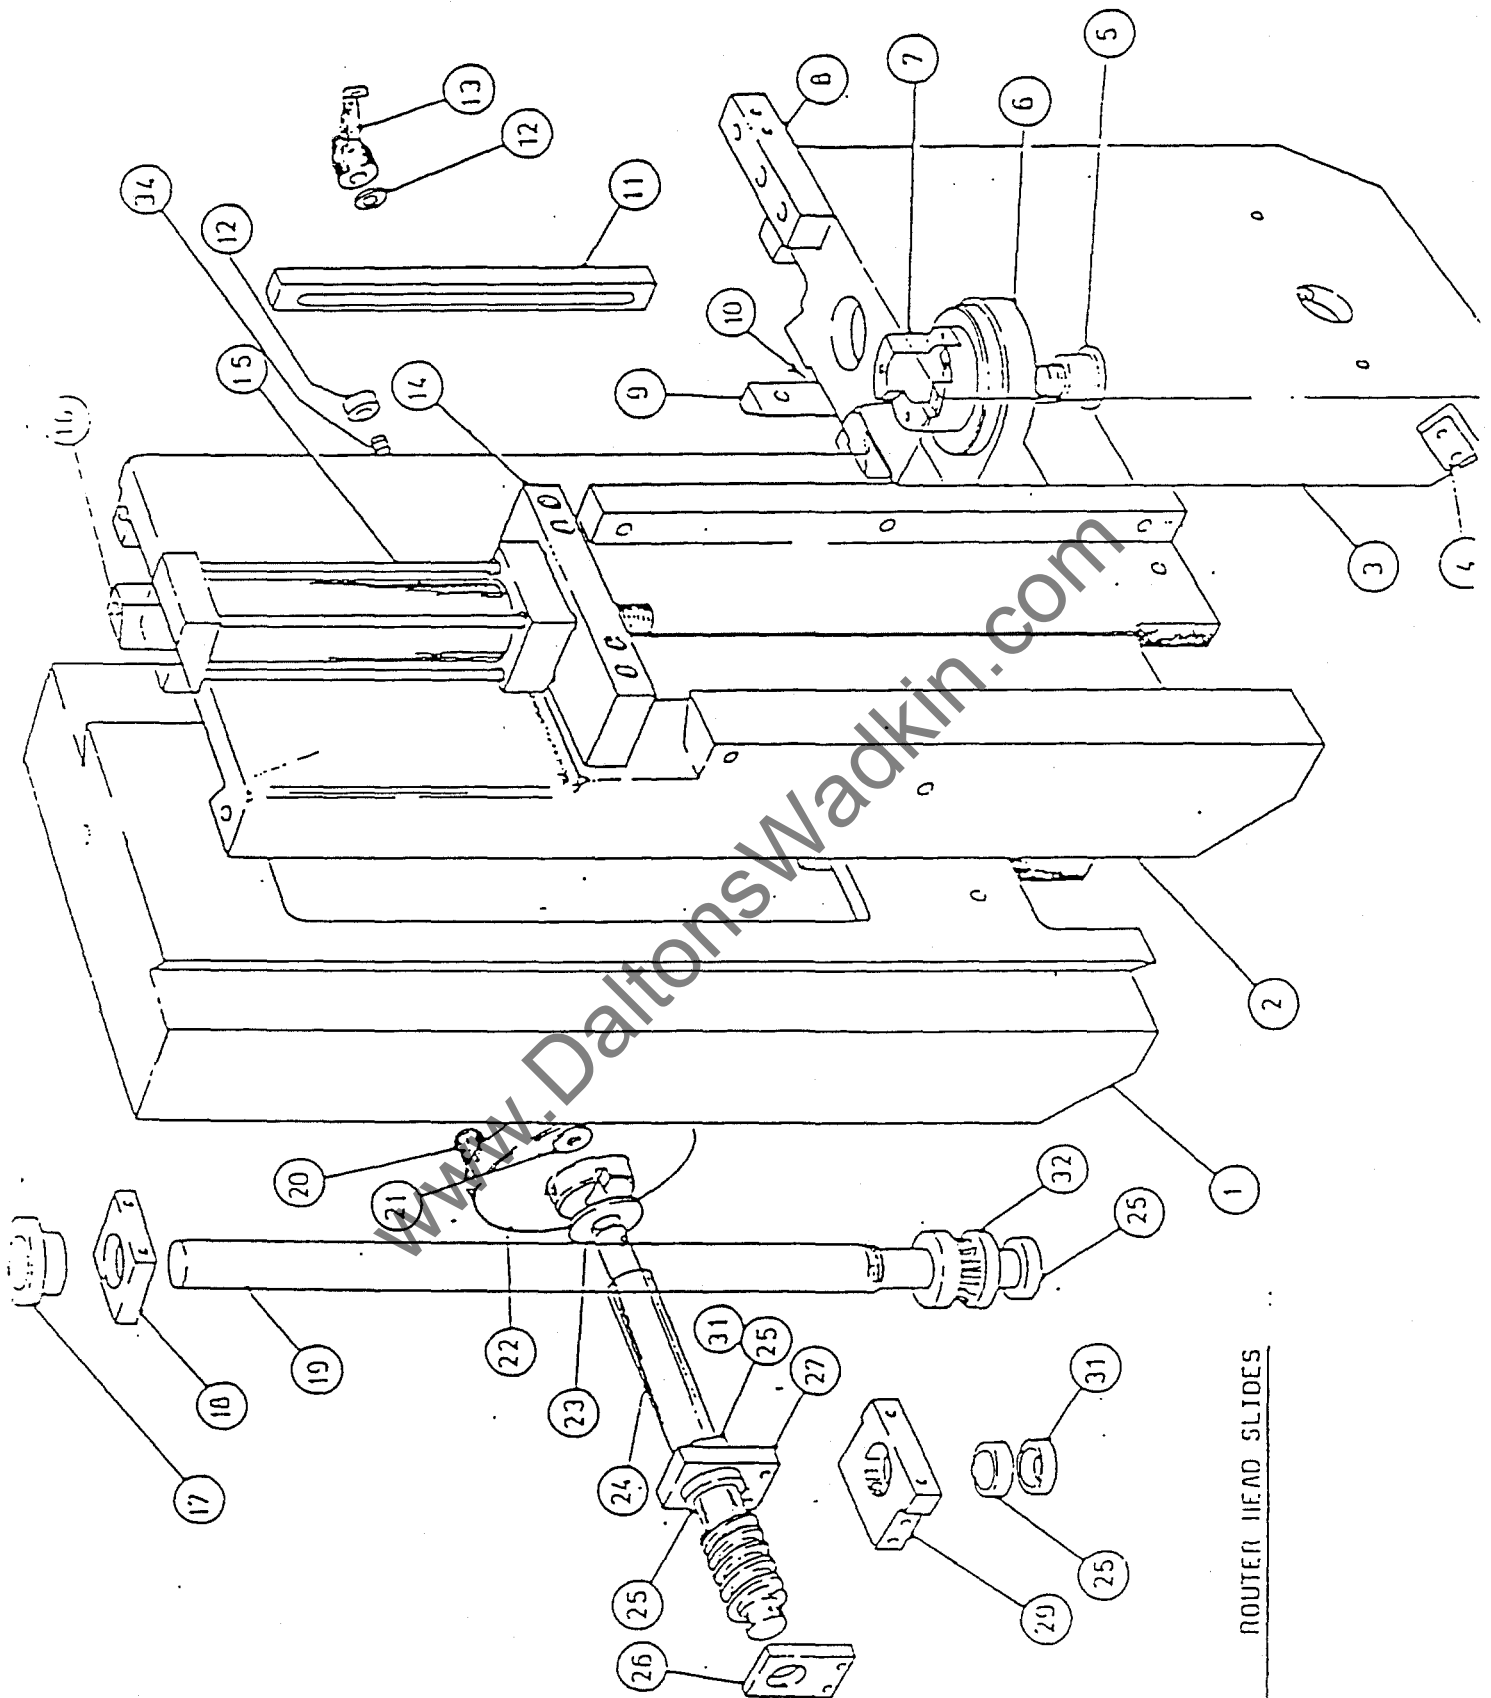

FIG. 20 ROUTER HEAD SLIDES
8.2 UX ROUTER HEAD SLIDES PARTS LISTS (SEE Fig. 20)